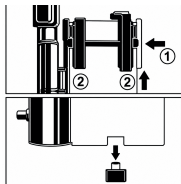

Fig. 4 - Fit brackets / support
- 3.** Fit the hanging brackets into the retaining slots. Position the height-adjustment support outside the canister (Fig. 4). Screw the drain outlet into the threaded fitting at the bottom of the waste-collection chamber.